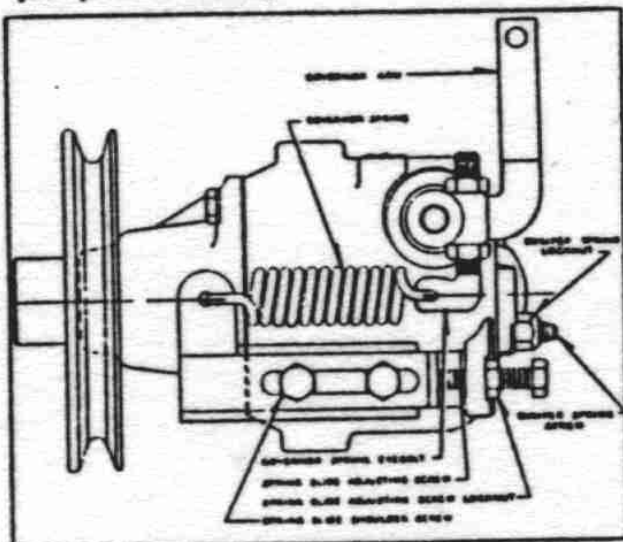

FIG. 33 ENGINE GOVERNOR ADJUSTMENTS
(1) With spring tension on the governor spring, Fig. 33, adjust the length of the throttle control rod so that the carburetor throttle lever clears the wide open stop by 1/64".
(2) Loosen the bumper spring screw locknut and turn that screw out far enough to prevent its functioning. Loosen the spring slide shoulder screws so the slide may move endwise. Start the engine. Loosen the spring slide adjusting screw locknut and turn that screw as necessary to obtain correct speed.
(3) If the governor surges under full or part load, adjust the governor spring eyebolt downward until surging stops. For close regulation, keep the governor spring eyebolt as high as possible without causing surging. Each time its adjustment is changed, readjust the spring slide adjusting screw for correct speed.
(4) If the governor surges at no load, turn the bumper spring screw in until surging stops, but not far enough to increase the engine speed.
(5) Tighten all locknuts and shoulder screws."